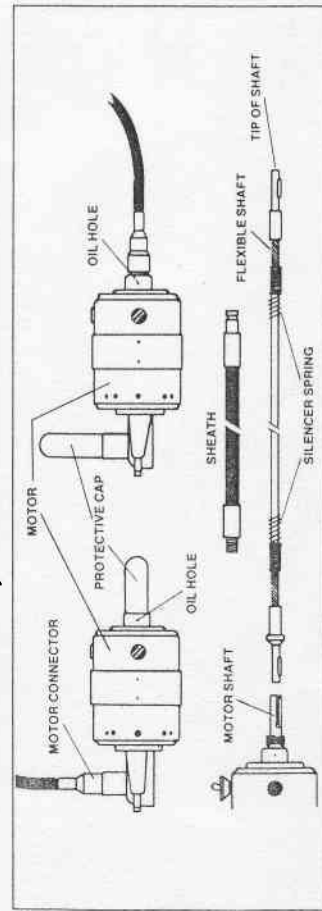

FIGURE 3
1. Insert the flexible shaft into the threaded end of the sheath until the shaft tip with shoulder rests on the thread. (See figure 3)